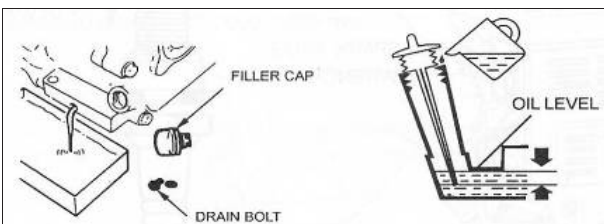

Fig. 27
9.6.3 Remove the drain bolt and drain the oil into the container by slightly tipping the engine toward the oil cap/dipstick. (Fig. 27)